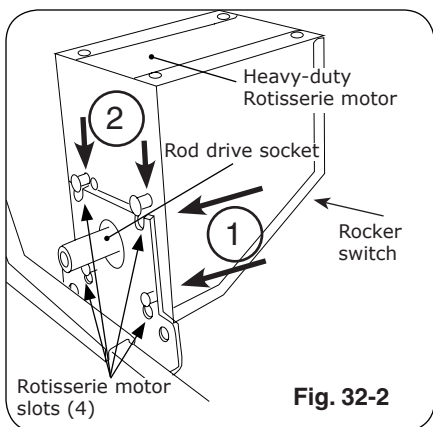

Fig. 32-2
10. Plug-in the rotisserie motor and press the rocker switch to start (Fig. 32-2).